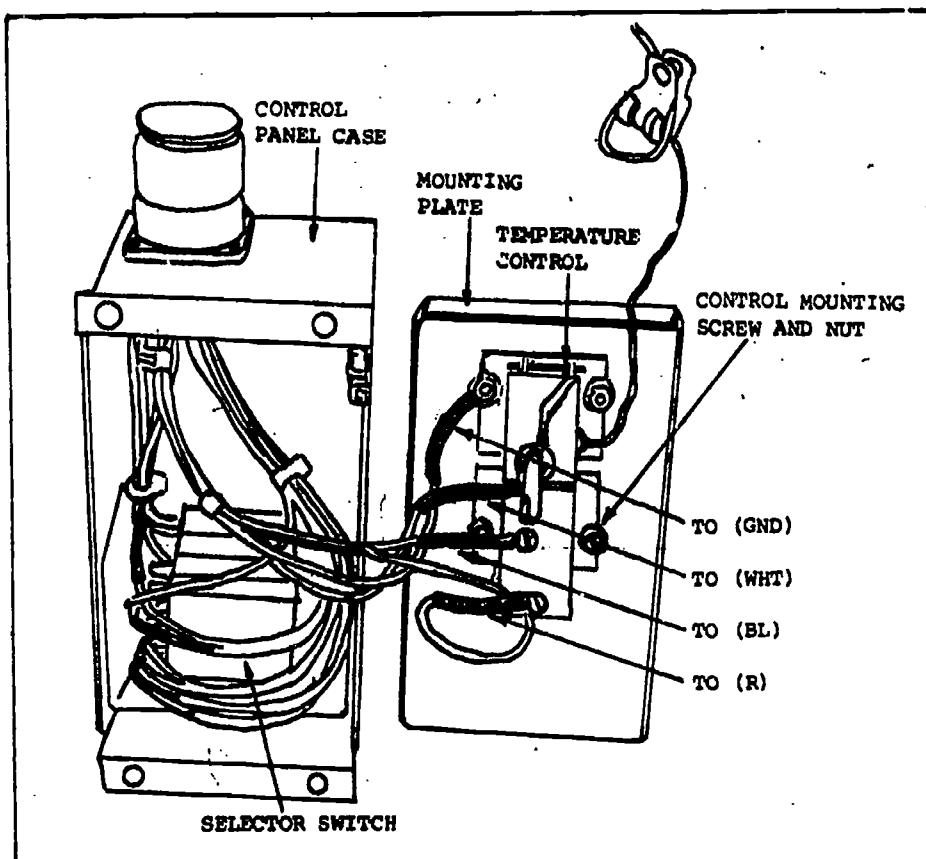

Fig 4-28. Control panel with case removed.
- (4) Selector switch. (See figure 4-28). Replace the selector switch as follows:
- (a) Remove the control panel as instructed in (3)(a) through (e) above.
- (h) Install the control panel as instructed in (3)(f) through (j) above.
- (5) Temperature control. (See figure 4-28). Replace the temperature control on the control panel as follows:
- (j) Install the control panel as instructed in (3)(f) through (j) above.